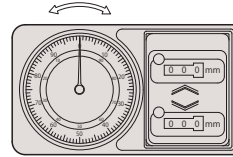

Fig. 1
5. Bring the measuring face of the scriber into contact with the surface plate and set the dial pointer and counters at zero to perform the zero point setting. (**Fig. 1**)